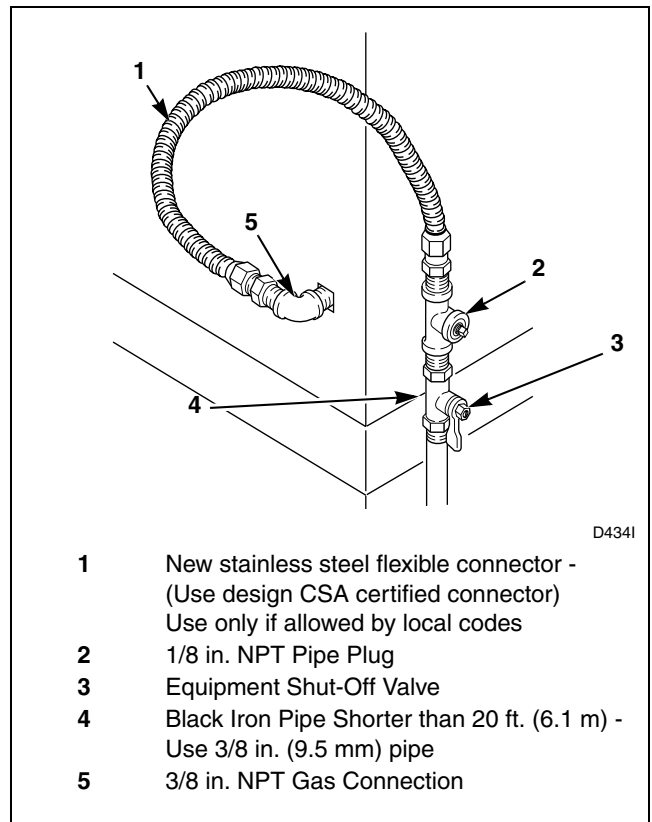

Figure 8
**NOTE: When connecting to a gas line, an equipment shut-off valve must be installed within 6 feet (1.8 m) of the dryer. An 1/8 in. NPT pipe plug must be installed as shown for checking inlet pressure. Refer to *Figure 8*.**